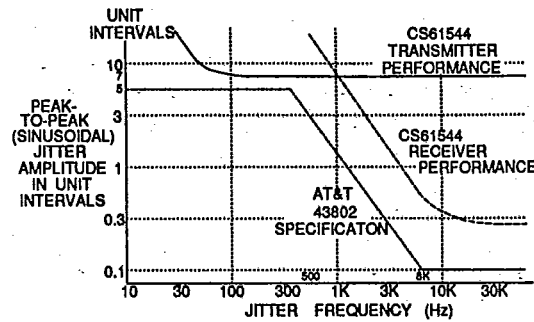

Figure 7 - Typical Input Jitter Tolerance of Transmitter and Receiver
- For Cerdip ICs, assumes IC is operated within -70° to $+70^{\circ}\text{C}$ of reset temperature. For Plastic ICs, assumes is operated within -25° to $+40^{\circ}\text{C}$ of reset temperature (meets Bellcore central office specification: TR-EOP-000063 NEBS). For all packages, assumes IC is operated within 0.1V of reset V_+ . Input data pattern is quasi-random: (2120) - 1 with 1-in-15. Between 500 Hz and 8 kHz the jitter tolerance will be better than the AT&T 43802 line shown in Figure 7.